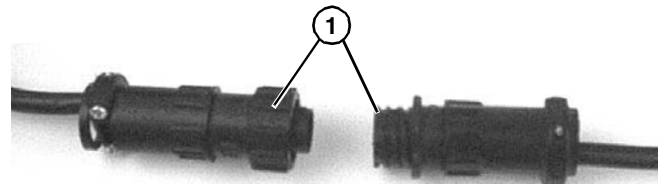

Figure 22
1. Unplug motor cord at disconnect (**Figure 22, item 1**).